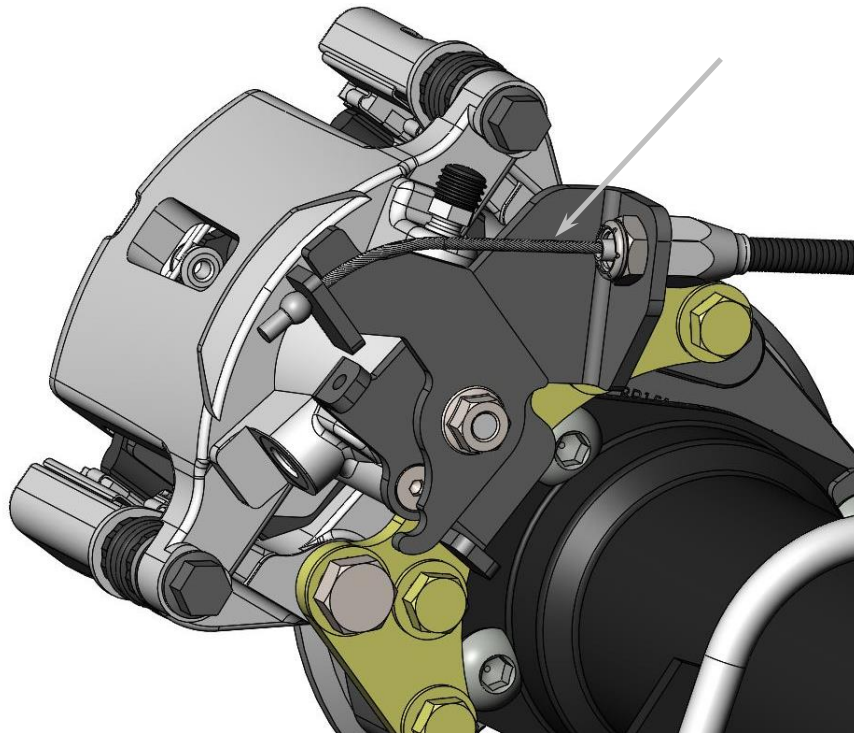

Figure 3 - Inner Wire Being Installed
6. Once reinstalled, insert the inner wire through the park brake lever and guide the inner wire through the cable housing as show in Figure 3 below.